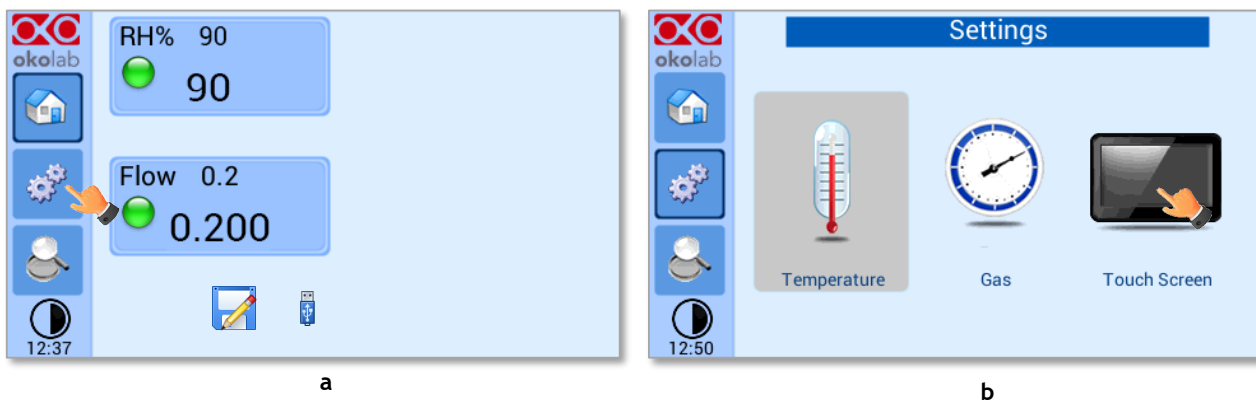

Figure 35 (a) How to enter the setting menu; (b) how to enter the Touch Screen menu.
1. Press on *Settings* icon  (see Figure 35 a) and press on *Touch screen* icon  on the window that opens next (see Figure 35 b).